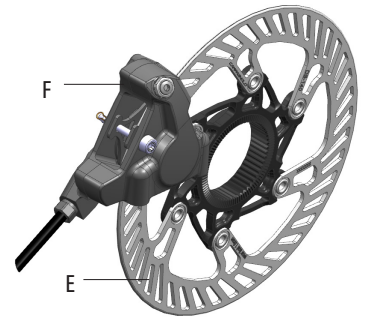

Fig.2
- rotor (E - Fig.2)
- calliper (F - Fig.2)